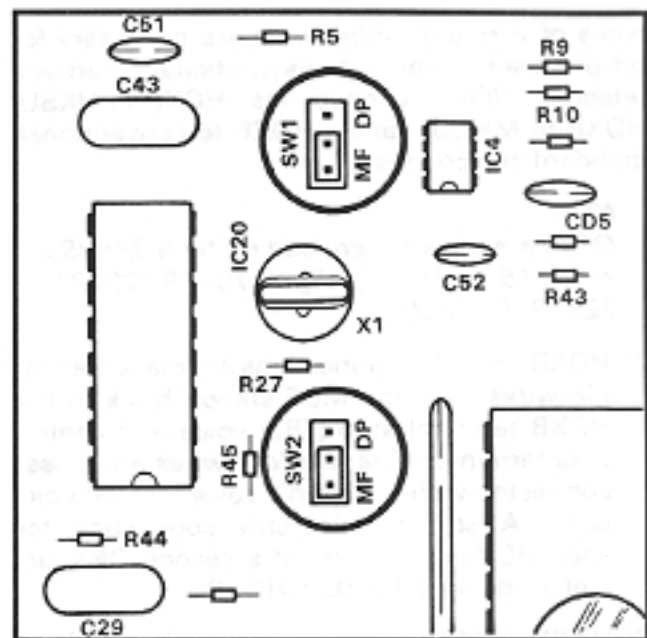

FIGURE 30—HOXB CONNECTION STRAPS
09.33 Option Switches: Remove the cover of the HOXB and locate the two operational mode straps on the HOXB PCB (mounted to the HOXB base). As shown in Figure 30, the straps are located in the center of the PCB (SW1